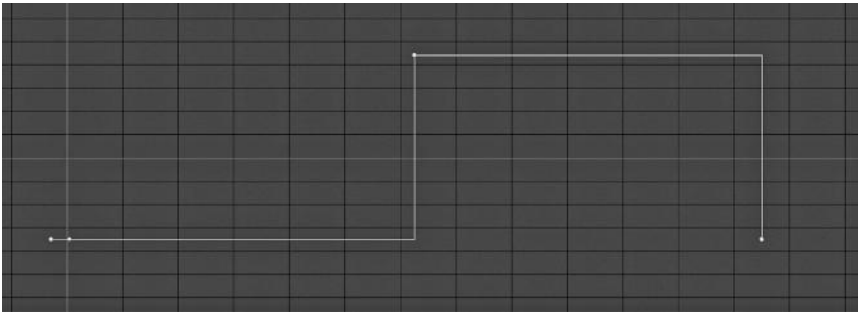

FIGURE 5.26 Stepped tangents.
**Stepped tangents**—Stepped tangents are not only lacking in tangent, but they are lacking in interpolation. The keyframe just switches values from one keyframe without any gradual change over time. Stepped values are great for things like visibility changes or teleportation, like whether it is visible, just “pops” on or off, or just materializes on the screen (Figure 5.26).